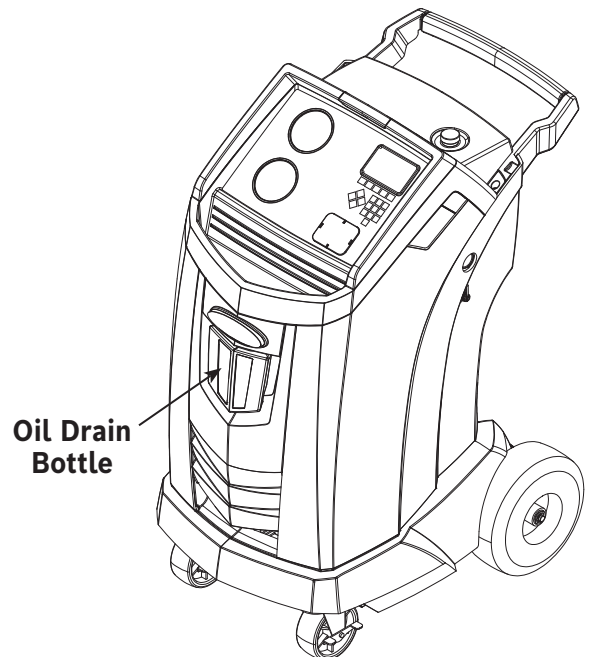

Figure 6
1. Empty the oil drain bottle before starting a recovery. Remove the oil drain bottle from the machine by pulling the bottle straight down—do not use a twisting or rocking motion. Reinstall the oil drain bottle. See Figure 6.